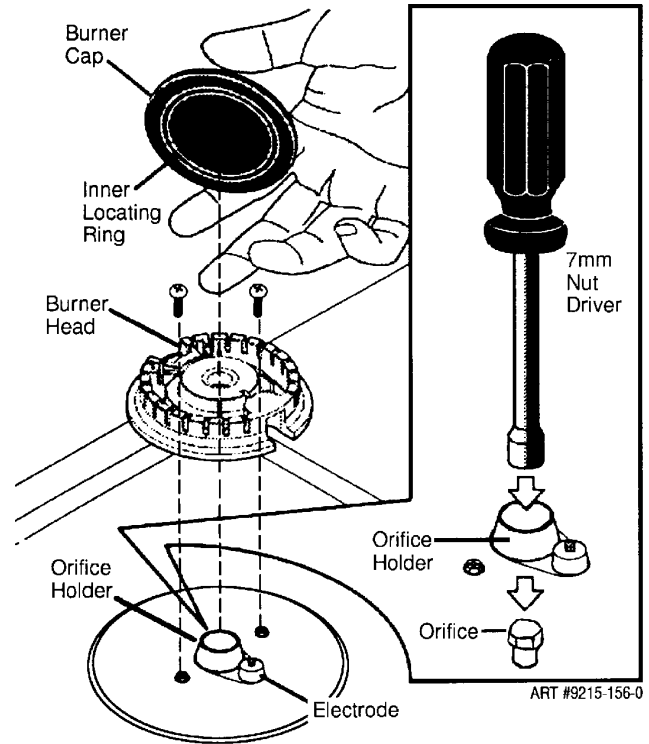

FIGURE 1
1. Remove plastic cover from pressure regulator neck. See figure 1.
- b. Remove each burner head by removing two screws. (See figure 1) **NOTE:** Convert one burner at a time to avoid incorrect installation.
- d. Remove the factory installed natural gas orifices from the center of the orifice holders using a 7mm nut driver. (See figure 1). Remember to keep the original natural gas orifices for possible later conversion to natural gas.